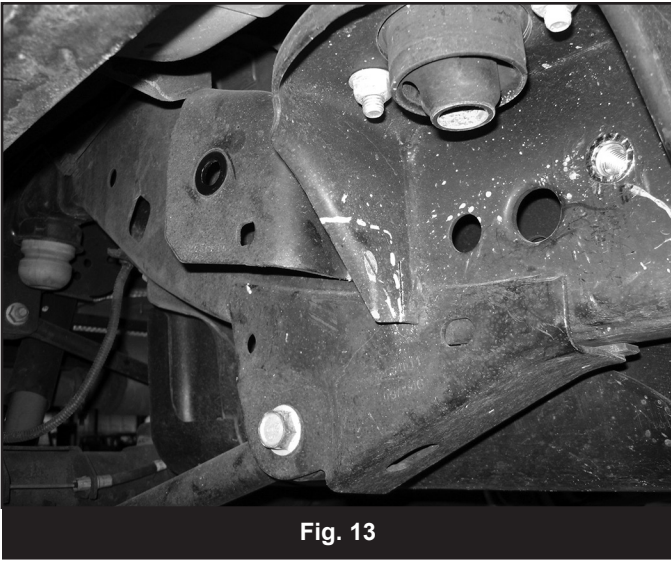

Fig. 13
7. Measure up 1-1/4" from the bottom edge of the body mount, measure from frame over 3/8" and remove section from the body mount. (Figure 13, 14)